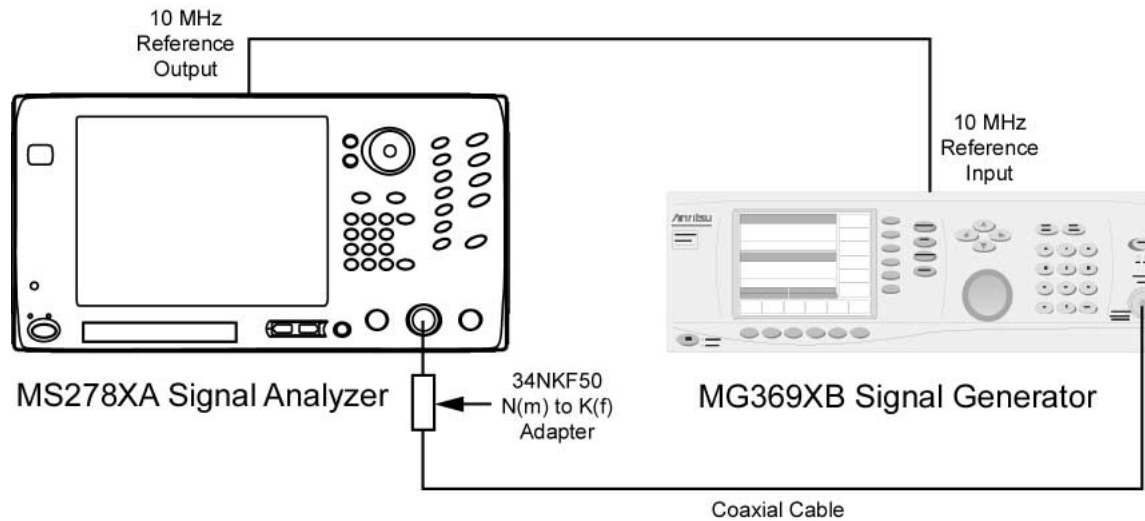

Figure 6-48. Equipment Setup for Reference Level Switching Uncertainty Test
- Step 1.** Set up instruments as shown in Figure 6-48.